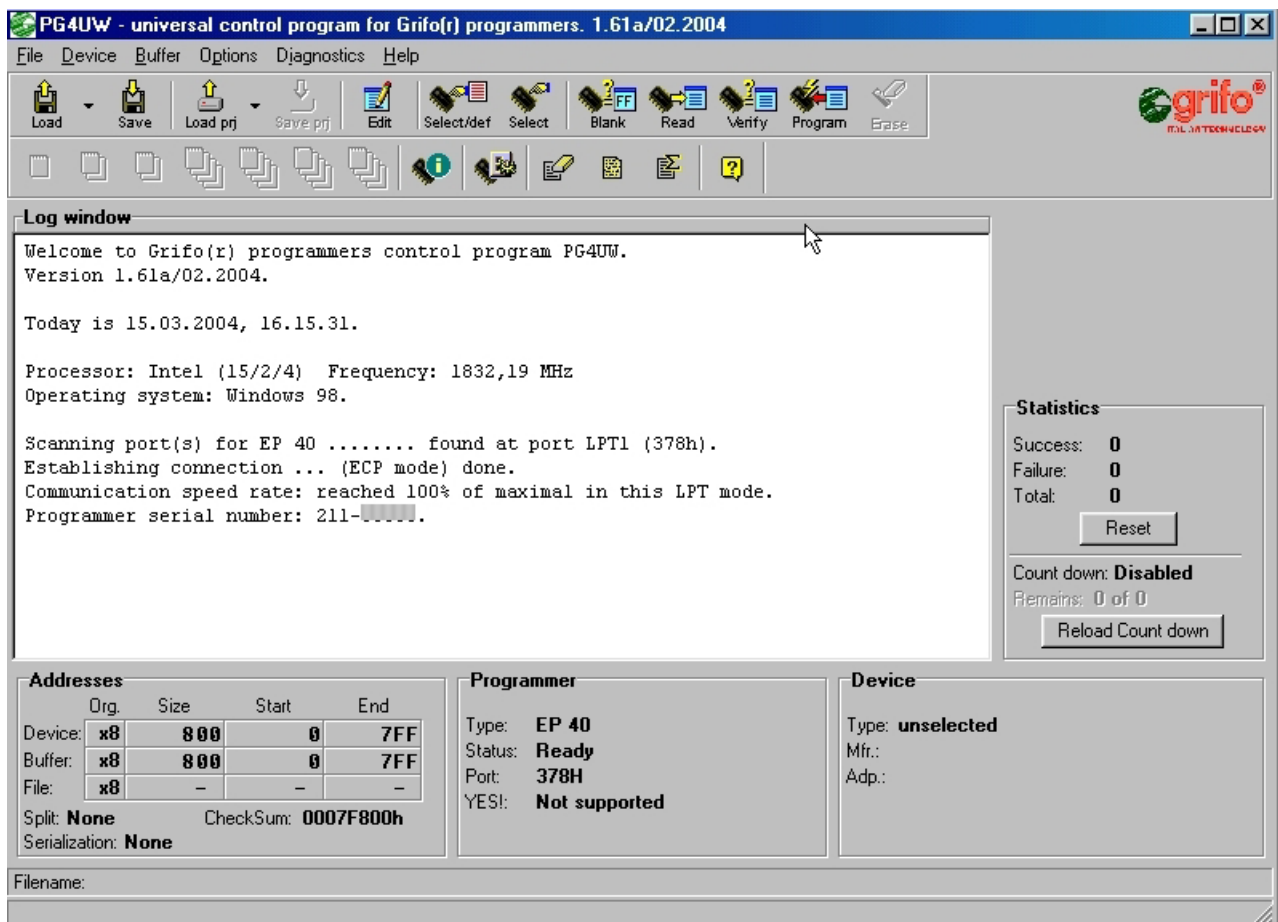

FIGURE 7: STARTING WINDOW OF PG4U FOR WINDOWS
- If the hardware has been connected properly, the program now should display on the screen a window to inform that has found the programmer, like in figure 7 (only Windows version), then, in the main screen, it should display the programmer status in the bottom central frame. Should this not happen, please repeat the steps described in “INSTALLING PROGRAMMER HARDWARE” or refer to the paragraph “TROUBLESHOOTING”.